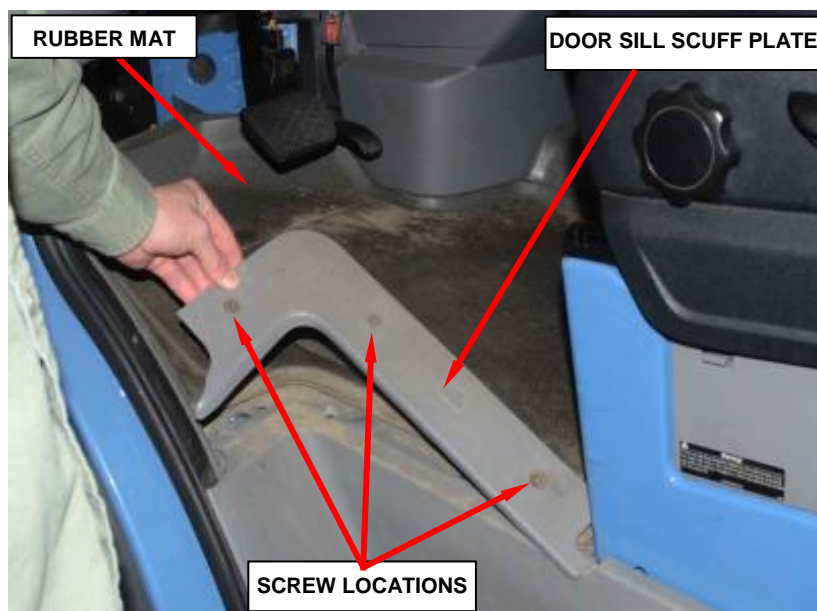

Figure 106 – Door Sill Scuff Plate
- a. Remove and save the three screws from the door sill scuff plate and remove the door sill scuff plate (Figure 106).
- b. Remove the rubber mat (Figure 106).